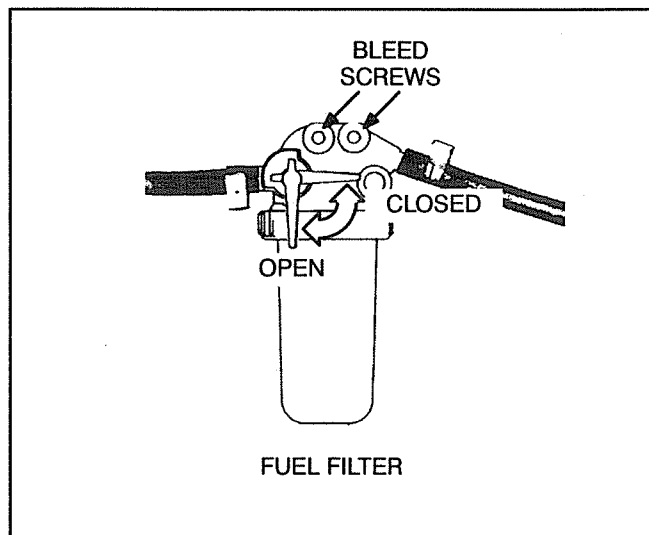

FIGURE 12-2. FUEL SHUTOFF
1. Make sure that the fuel shutoff valve is in the open position (Figure 12-2).
2. Place a container under the fuel filter to collect fuel. Loosen fuel filter assembly bleed screw (Figure 12-2).